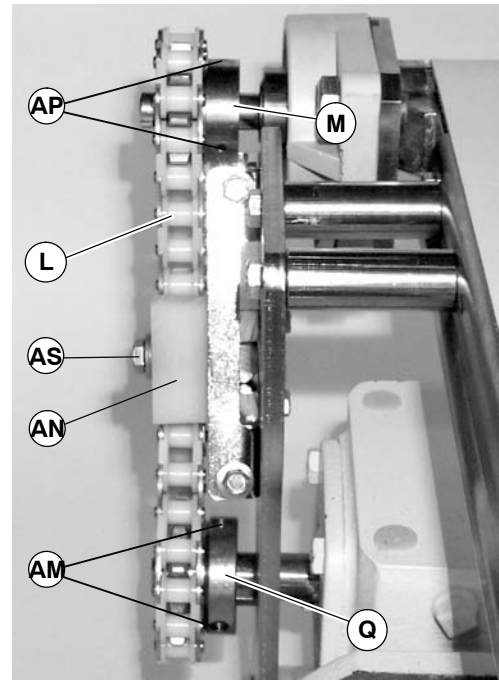
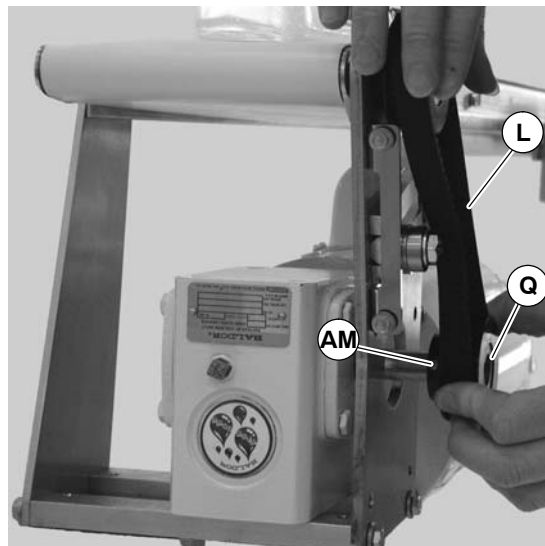

Figure 29
Figure 38
2. Loosen timing chain tensioner screw (AS of Figure 29).
6. Install timing chain (L) over sprockets (M and Q). Install timing chain and sprockets on conveyor input shaft (Z) and gear reducer output shaft (AO). Do not tighten sprocket set screws.
IMPORTANT: Make sure center of timing chain (L of Figure 29) aligns with center of chain tensioner (AN). If necessary, loosen two set screws (AM) to move drive sprocket (Q) in or out. Tighten set screws. Also, if necessary, loosen two set screws (AP) to move driven sprocket (M) in or out. Tighten set screws.
7. Slide chain tensioner (AN) to take up chain slack. Tighten chain tensioner screw (AS of Figure 29) to 92 in-lb (10.4 Nm).
- Slide chain tensioner (AN) to take up chain slack. Tighten chain tensioner screw (AS of Figure 29) to 92 in-lb (10.4 Nm).
NOTE: For a timing chain, it may be necessary to remove driven sprocket (M of Figure 29) by loosening two set screws (AP) to remove drive sprocket (AM of Figure 38).
3. Loosen two drive pulley or sprocket set screws (AM of Figure 38). Remove drive pulley or sprocket (Q) and timing belt (L).